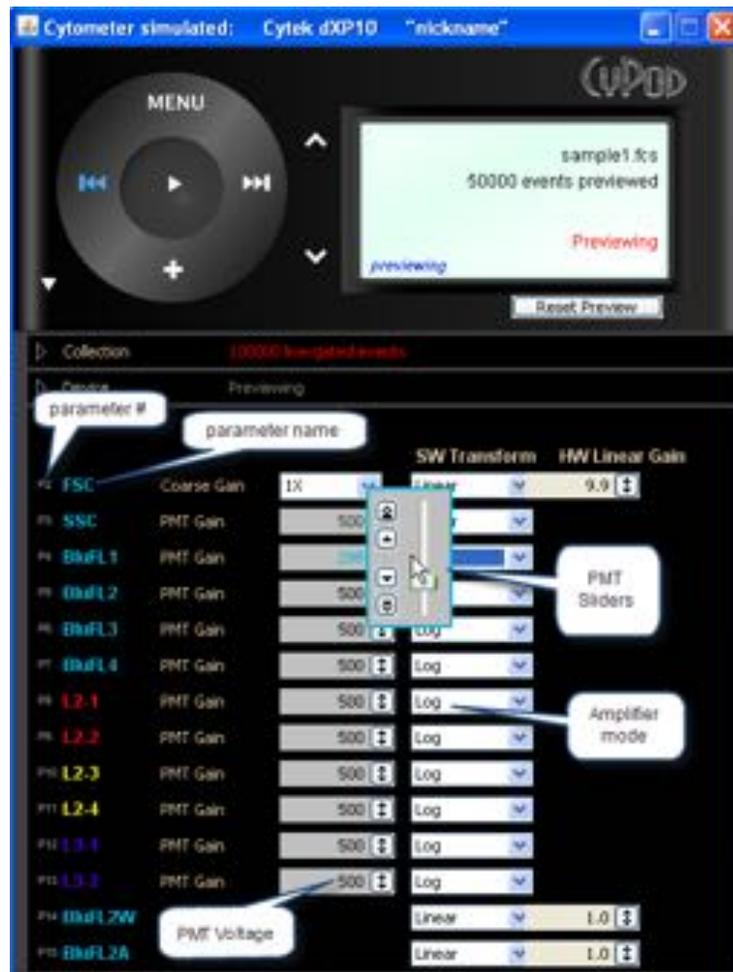

Figure 6.7.1
Note: Figure 6.7.1 illustrates a 4 laser 10-color system. Different Cytek instrument models will vary from this appearance.
- Laser 2 can be shared by three lasers and is the second laser position. In figure 6.7.1, L2-1, and L2-2 are excited by the red laser and color-coded as such. L2-3 and L2-4 are excited by the 561 yellow laser and color-coded as such.